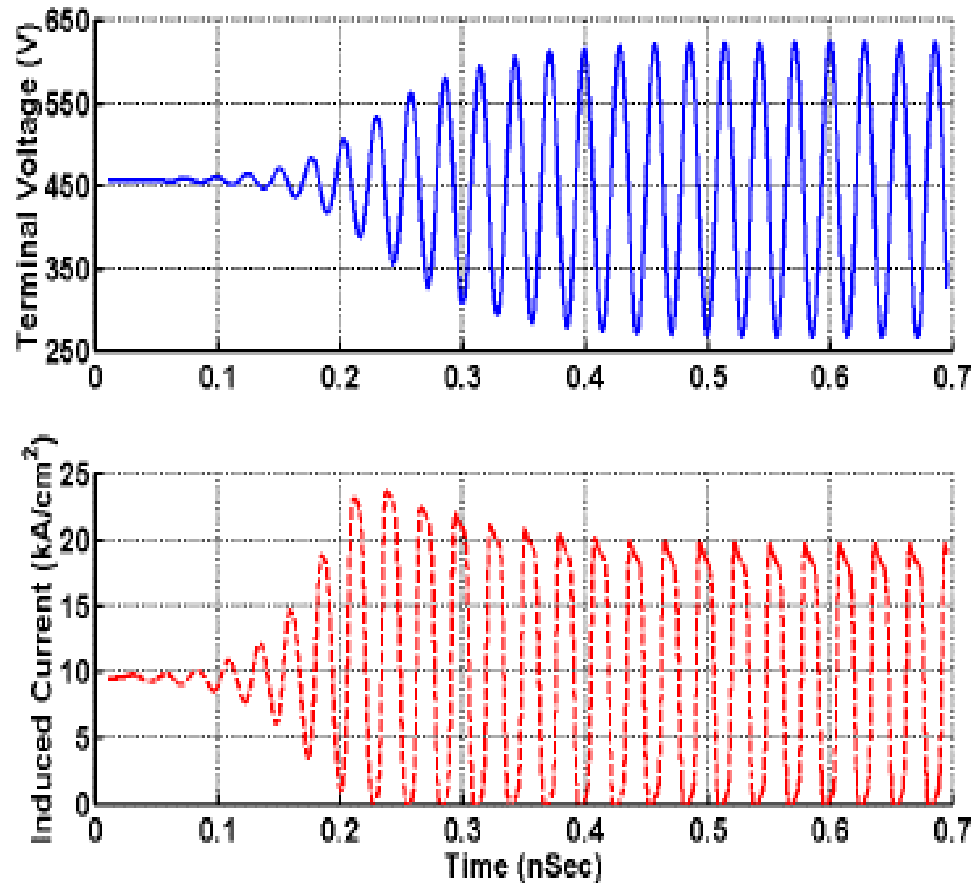

Figure 2: The Build Up Of Microwave Oscillation.
- **Figure 2** shows the buildup of microwave oscillations in the diode current and voltage when the **diode is embedded in a resonant cavity and biased at breakdown**